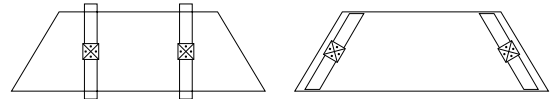

Figure 4 - Trapezoid Tops
- When Trapezoid tops are freestanding, legs must be on the outer left and right sides (**Figure 4**).